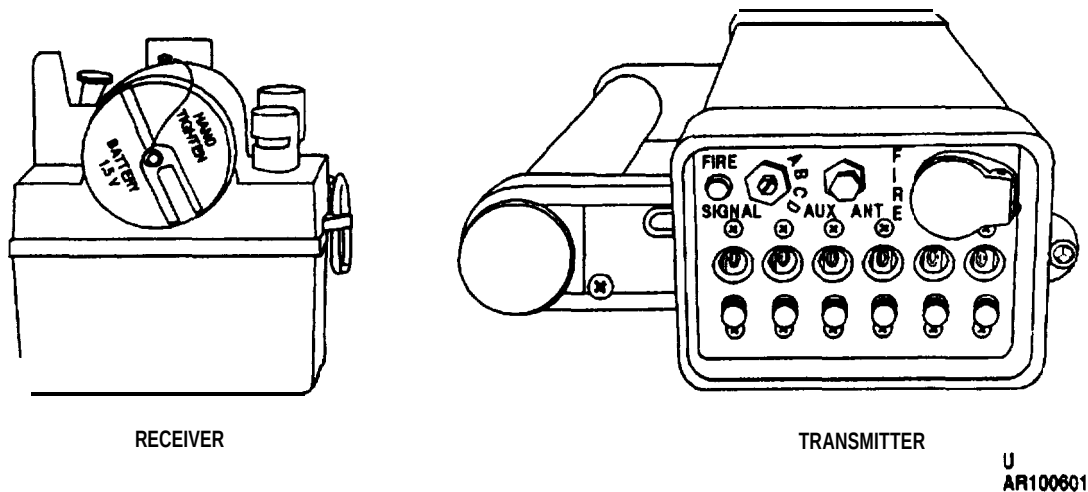

Figure 1-1. Transmitter and receiver of demolition firing device M122.
a. The Demolition firing device M122 (fig. 1-1) is designed to remotely initiate explosives by
a. General. The major components of the transmitter receiver are shown in figures 1-1 through 1-7. The transmitter is used for encoding and transmitting a radio signal and has its own antenna collapsed within the carrying handle. The receiver with an attached antenna wire is used for receiving and decoding the incoming radio signal. This signal triggers electronic firing of attached blasting caps that initiate explosive charges. The firing device is issued in sets consisting of one transmitter and 10 receivers in a fitted carrying case (fig. 1-5 and 1-6). The initial batteries and special battery pack will not be supplied with the item. Batteries and battery packs must be requisitioned through normal channels. Receiver batteries should be available for over-the-counter issue in most areas. Batteries or battery packs are not shipped installed in the devices and must be installed before checkout test or use.